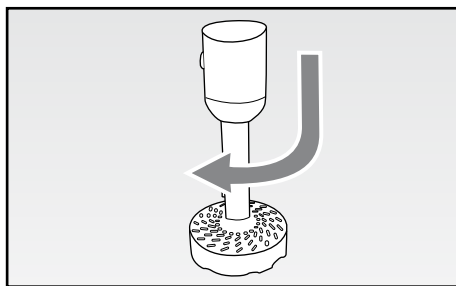

Fig. 3
- Mount the fitting (I) onto the potato masher (L): put the two parts closer, by aligning the symbol of "open lock" on the potato masher and rotate the fitting clockwise until it clicks in place (Fig. 3).